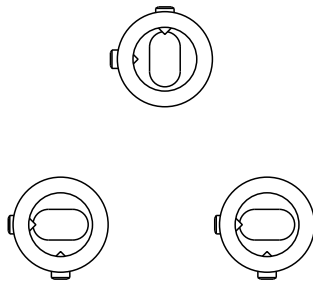

fig 1. bracket positions
Position brackets (C) on wall with grub screw holes as shown in figure 1 for maximum rigidity before tightening screws (D).